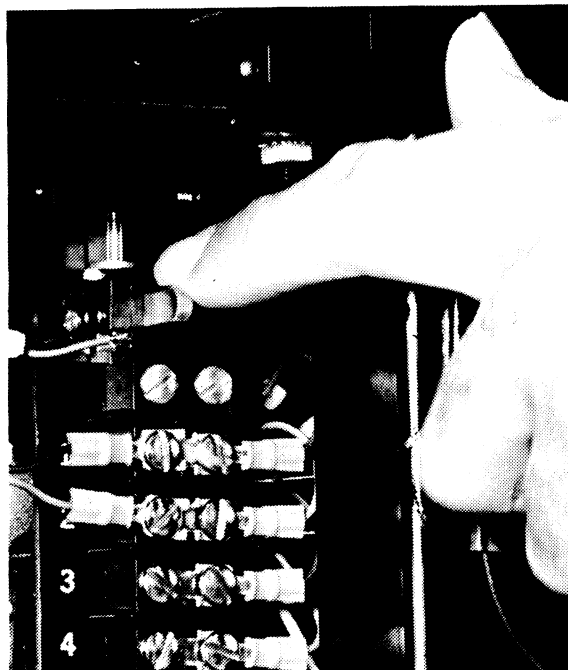

FIGURE 2-13. DOOR LOCK OVERRIDE MECHANISM
2. Pull open the drive's front cover. Referring to Figure 2-13, locate the door lock override mechanism; it is an arm protruding from the door lock solenoid. Press the mechanism downward, and while holding down, push the door and start sliding it toward the rear. Release the mechanism and push the access door all the way back.